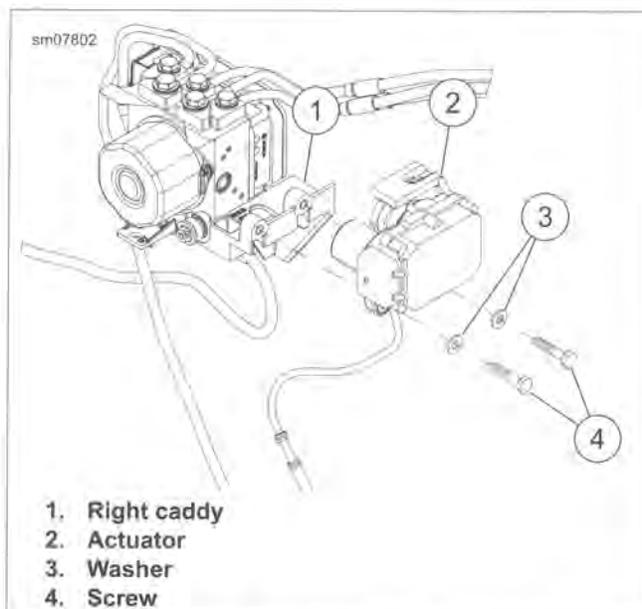

Figure 4-43. Active Exhaust Actuator
4. See Figure 4-43. Remove two screws (4) and washers (3) to release active exhaust valve actuator (2) from right side caddy (1).